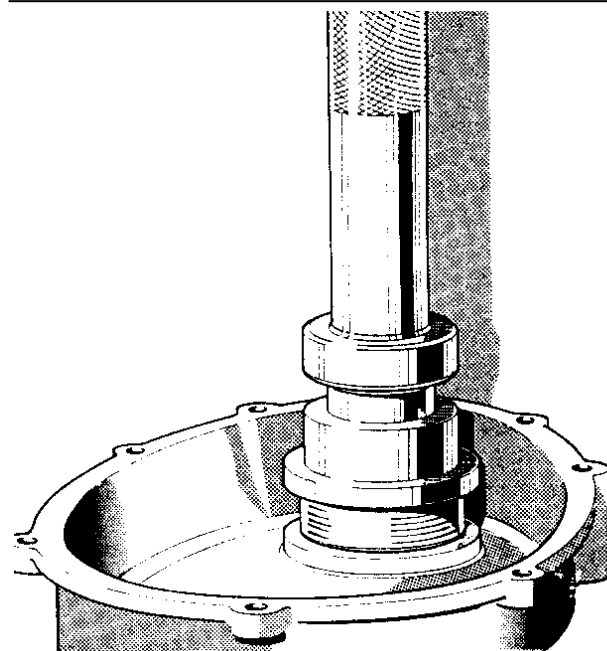

Figure 11 Replacing front cover oil seal
8. Fit new oil seal using special tool no. RT 7480 and drive handle locating as shown in (Figure 11).